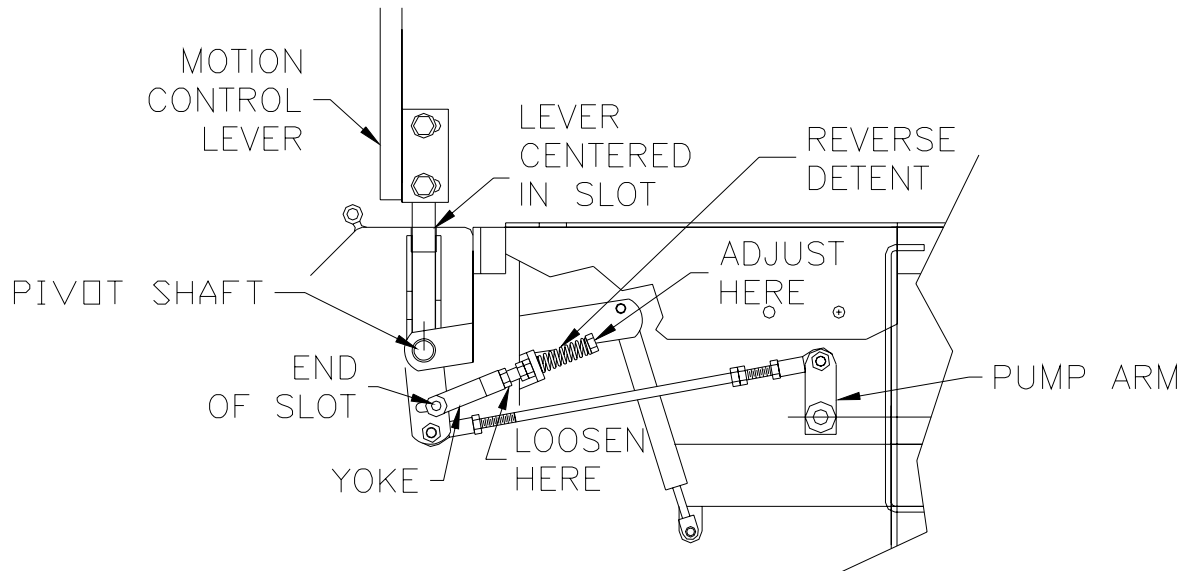

Figure 5A
3. Start with either the right or left motion control lever. Move the motion control lever to the neutral position then pull the lever back until the clevis pin (on the arm below the pivot shaft) comes into contact with the end of the slot. At this point slight spring pressure should be felt ( See Fig 5a).